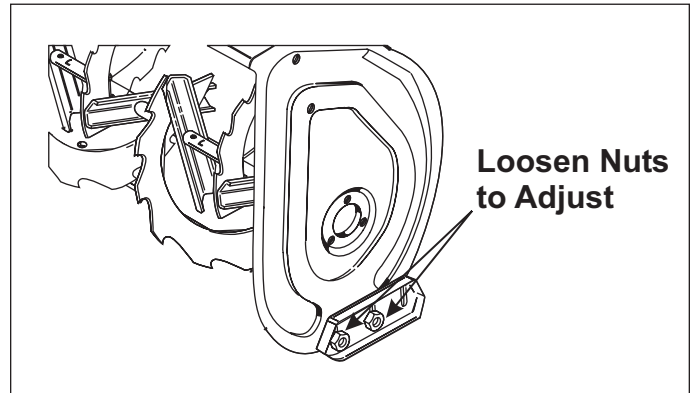

Figure 3. Adjusting Skid Shoes
1. Loosen the nuts securing the skid shoes (see Figure 3).